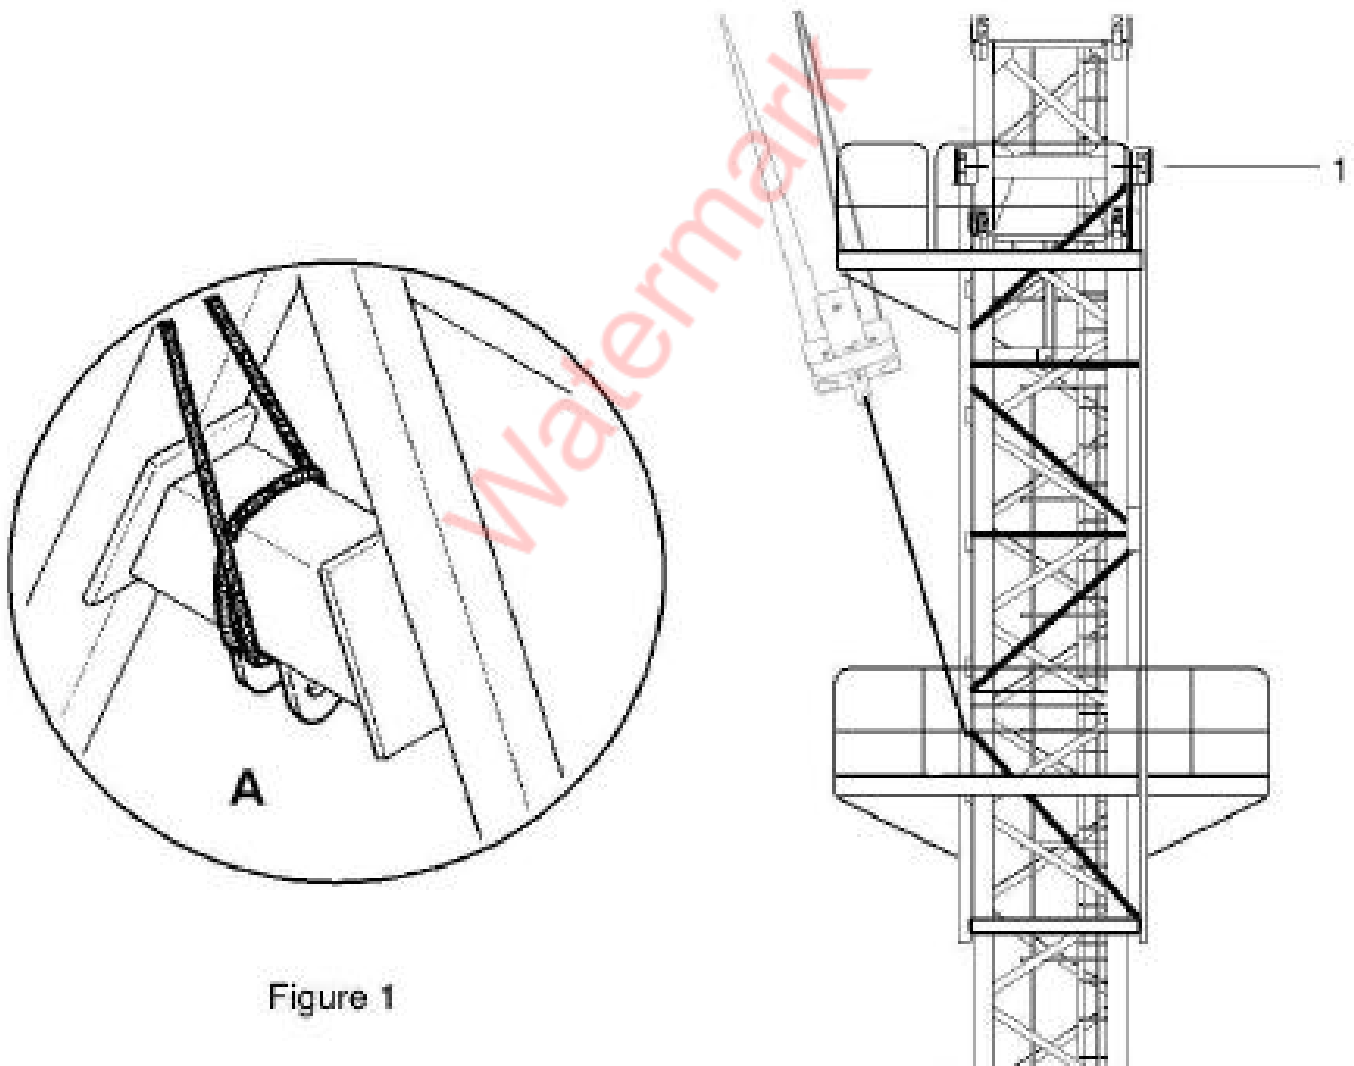

Figure 1
- _ Sling the telescopic cage at the cylinder support beam (Detail A – Figure 1) and hook it on the